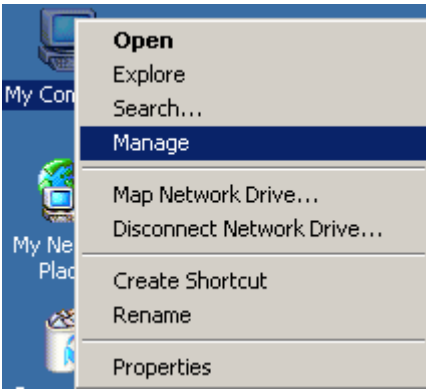

Figure 2 – Start to Locate the Driver.
1. With the Precision LC turned on, select the “My Computer” icon on the desktop, right-click and select “Manage” from the popup menu (**Figure 2**). Note that the figures in this document were taken from Windows 2000. The procedure is the same for Windows XP and Vista.